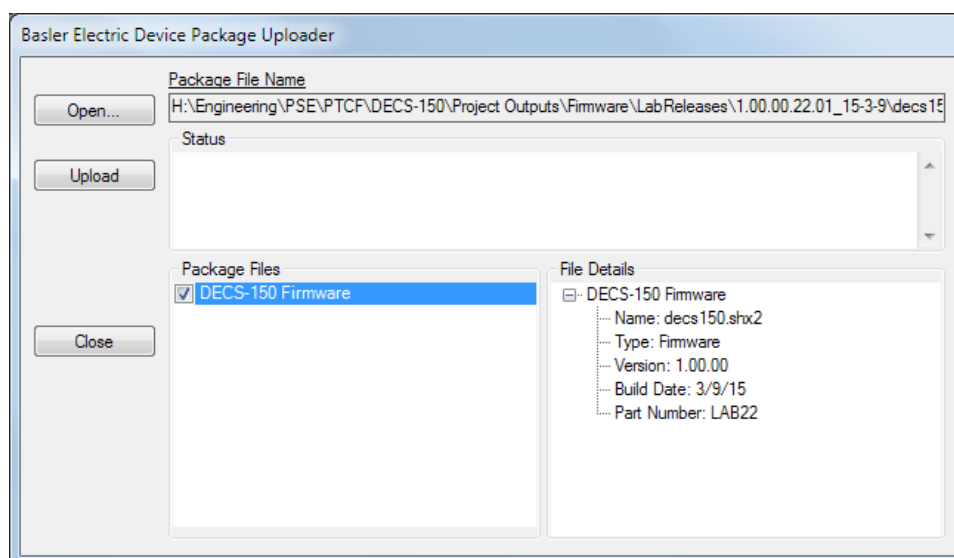

Figure 99. Device Package Uploader Screen
5. Check the box for DECS-150 Firmware as shown in Figure 99. Note the version number of the DECS-150 firmware; this is the version that will be used to set the Application Version in the settings file in a later step.